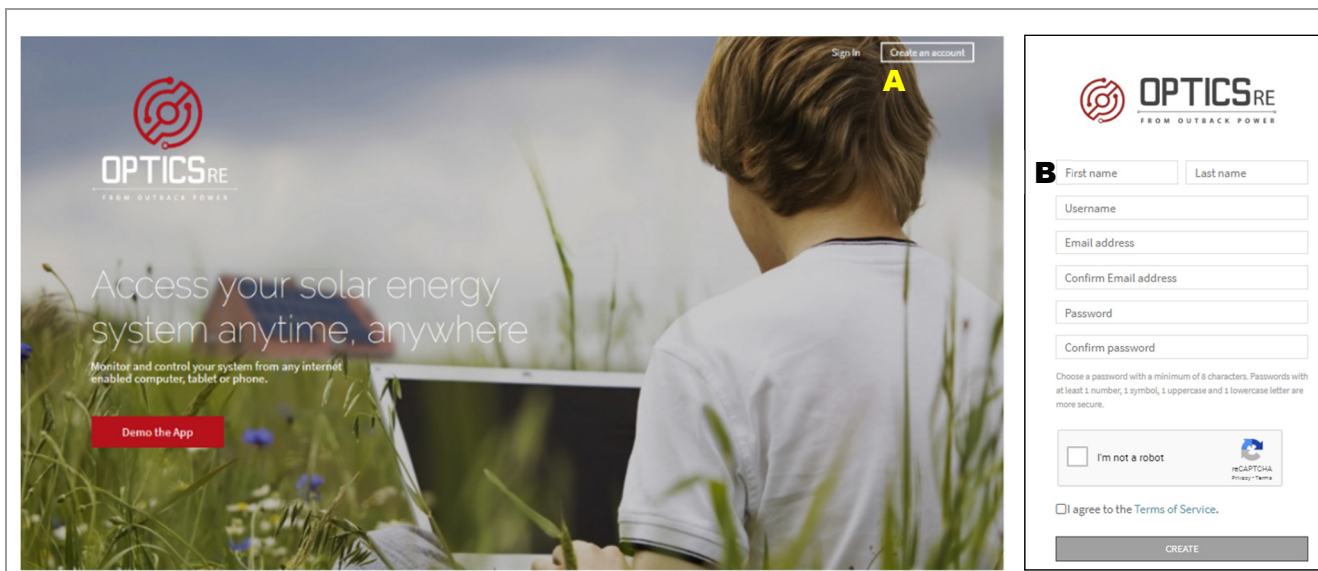

Figure 13 OPTICS RE Account
See **A** in Figure 13.
4. Fill in the appropriate account information fields. (See **B** in Figure 13.)